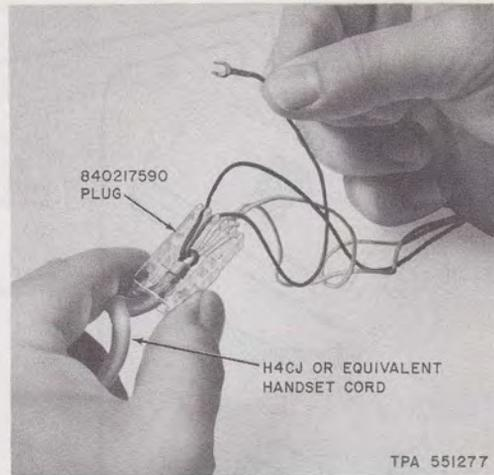

Fig. 7—Installation Spade-Tipped Handset Cords
3.13 Installation of Spade-Tipped Handset Cords in Early Production Sets (Fig. 7)